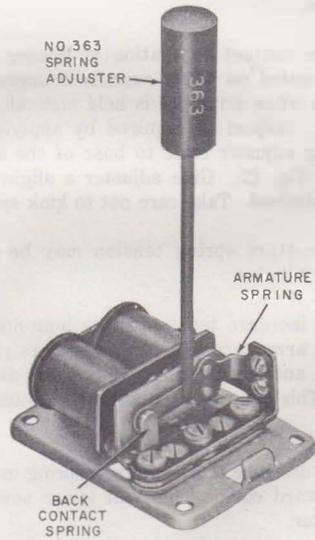

Fig. 22—Adjusting Armature Spring
4.10 The contact separation of buzzer and bell operated on direct current is approximately 0.005 inch when armature is held manually against pole face. Adjust as required by applying a No. 363 spring adjuster close to base of the spring as shown in Fig. 22. Give adjuster a slight twist in direction desired. Take care not to kink spring.
(d) After adjusting, see that armature tension spring rests against armature tension spring stop when armature is in unoperated position (Fig. 22).